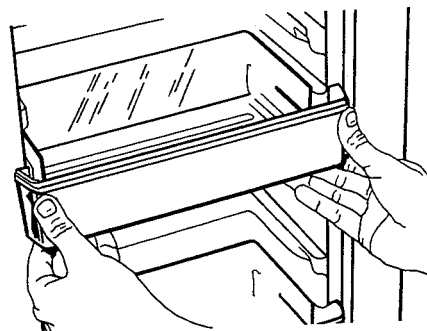

Figure 18.
d. **To install**, slide bucket into grooved area until tabs lock into place. See Figure 18.